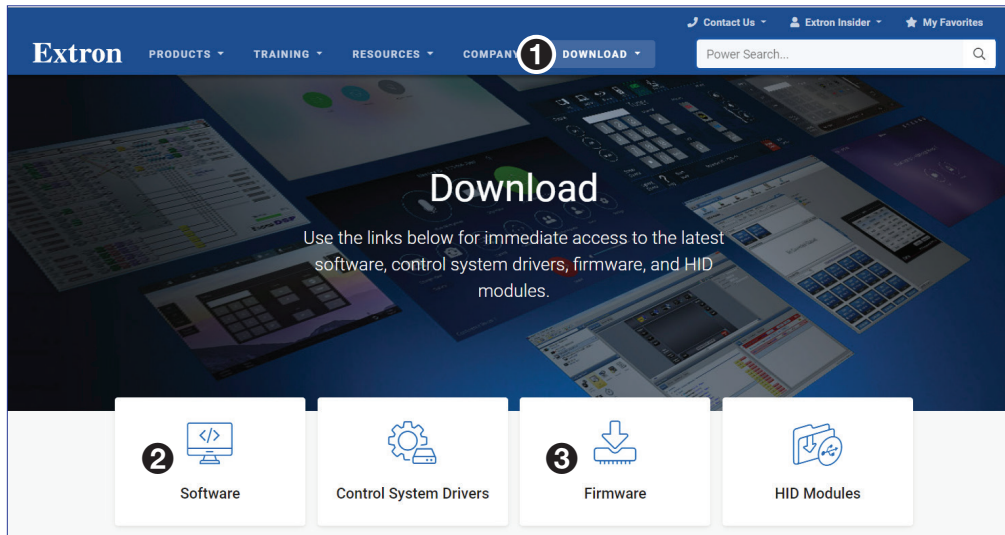

Figure 6. Software and Firmware Links on the Download Tab
1. Click the **DOWNLOAD** tab (see figure 6, **1**).